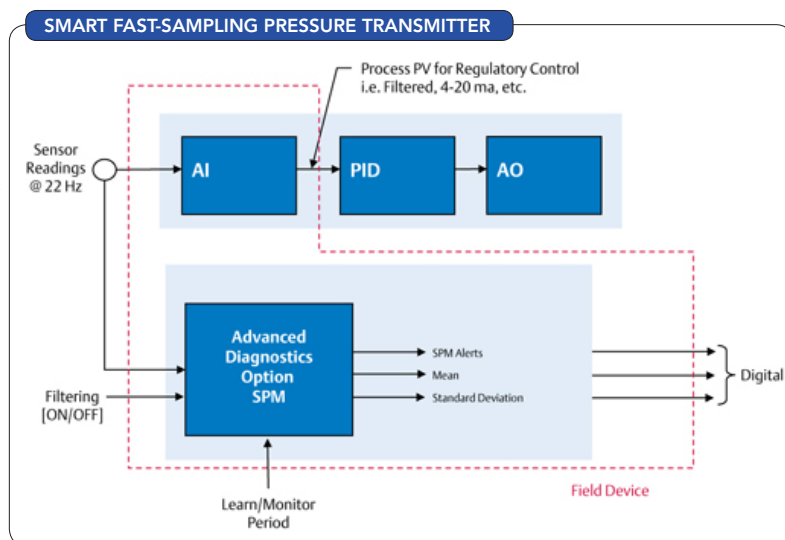

Figure 1. This block diagram shows key elements of a 4–20-mA HART device.
Vital to detecting problems or failures in process equipment are HART 4–20-mA and Foundation Fieldbus pressure transmitters having fast-sampled (22-Hz) sub-sonic sensor readings (Figure 1). These signals are used two ways: (1) conversion to filtered process variable for regulatory control, and (2) conversion of noise hash into useful acoustic signatures within an on-board advanced diagnostics module based on statistical process control (SPC). Data provided by this module are trailing mean, trailing standard deviation (SD) and calculated coefficient of variation ( $C_v$ ). These three values and the relationships among them — often at particular sensor-reading frequencies — can expose incipient and actual problems before they otherwise would be noted.